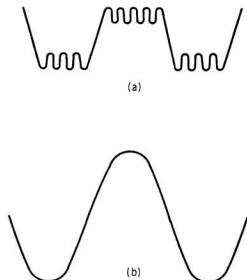

Figure 12. Output Form
2. When the reproduced wave forms have the shape shown in Figure 12 (a) irrespective of the position of the variable resistor, it shows that the FET is not controlled properly and something is wrong in the R001, X207, D201, D202, VR205 or X209 circuit.